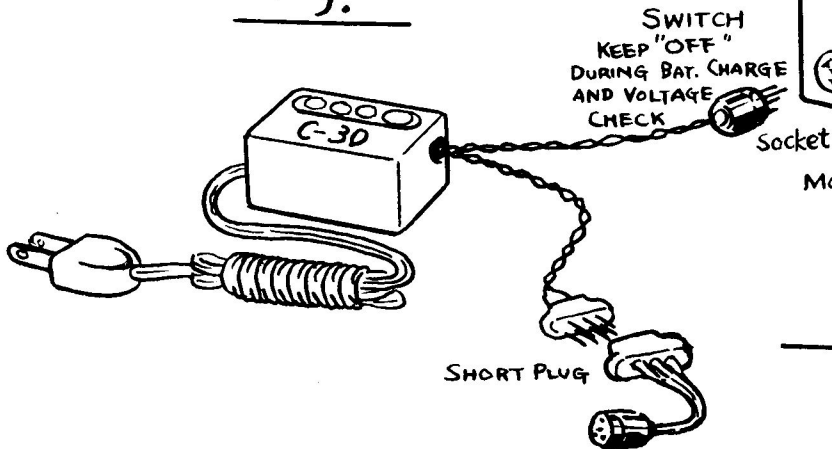

Fig. 5
- * Transmitter switch to ON position, the output plate of SP-203 may move a little. In this case, turn trim lever (see Fig. 5) and adjust it to "Neutral" position. That is to say, the output plate should remain at the same position when switch of transmitter APT-1 is both ON and OFF.